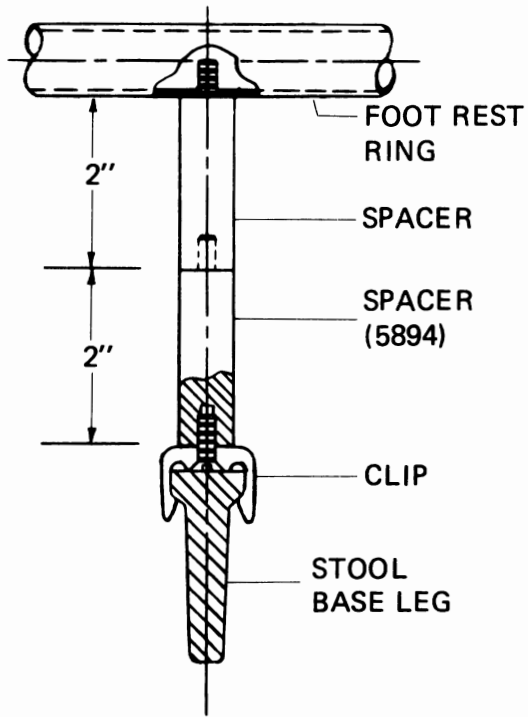

FIGURE 3
3.4.1. The foot rest ring is optional with the 5300 Series Stools and is held in place by plastic clips. The ring may be raised two or four inches above the base by installation of spacers (Part #5894) as shown in Figure 3.
3.4.3. Refer to Figure 3. Screw the stud end of each spacer into the foot rest ring. If two spacers are to be used, screw the second spacer into the first as illustrated.